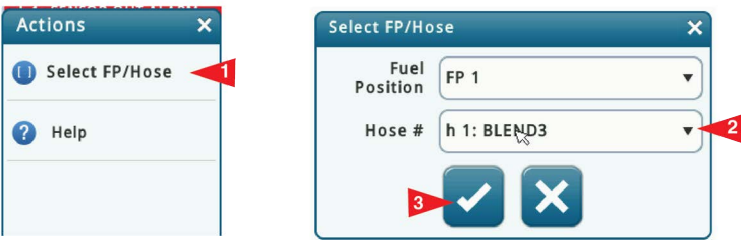
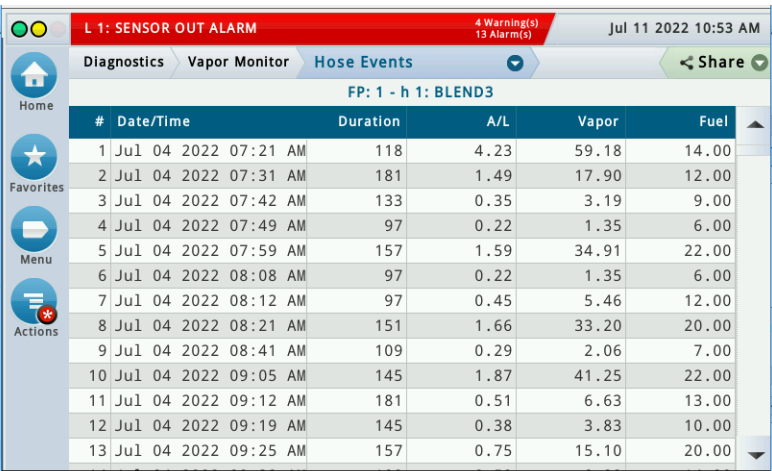

Figure 16. Clearing Vapor Collection Test By Hose
Figure 17. Vapor Collection Hose Events Screen
- 2. Touch the Actions button, then select a FP hose (item 1 Figure 16), Hose # (item 2) and touch the ☒ button to display the vapor collection events for the selected hose (Figure 17).